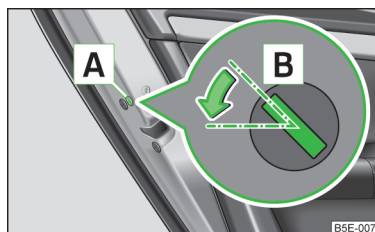

Fig. 210
- Remove the panel [A] » Fig. 210.